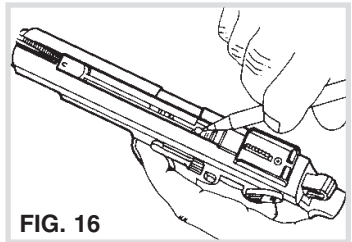

FIG. 16
3. Look inside the slot on top of the gun from which the clip was removed. If a BB is visible, use a ballpoint pen, screwdriver, etc. to remove the BB from the gun as shown in Fig. 16.
**! CAUTION:** Do not assume that the gun is empty of BBs when the Quick Change BB Clip is removed from the gun. Verify that all BBs are removed as illustrated in Fig. 16.